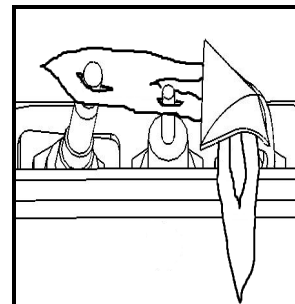

FIG. 2
4. Wait five (5) minutes to clear out any gas. Then smell for gas including near the floor. If you smell gas, STOP! Follow "B" in the safety information above. If you don't smell gas, proceed to step 5.
6. Continuing beeps confirm the ignition is in process. Once lighting the pilot flame should appear as shown in Fig.2. Once the pilot is confirmed, the main burner ignites on high.
For your safety, this appliance is fitted with a flame supervision device which will shut-off the gas supply if, for any reason, the pilot flame goes out. This device incorporates a fixed probe, which senses the heat from the pilot flame. If the probe is cool, the device will prevent any gas flow unless manually lighting the pilot. See full lighting instructions. Periodically check the pilot and burner flames comparing them to figure 2 on page 32, and the image on the bottom of this page.